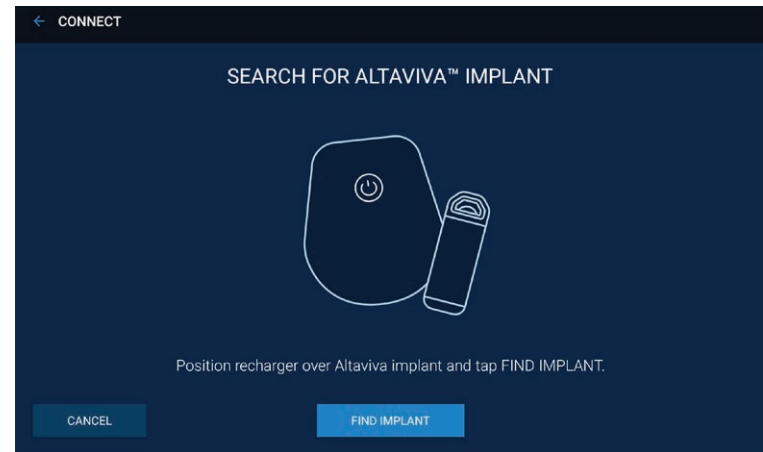

Figure 7. Search for Altaviva Implant screen
7. Once connected to the recharger, you will see the Search for Altaviva Implant screen (Figure 7), or a list of INSs for you to select from.